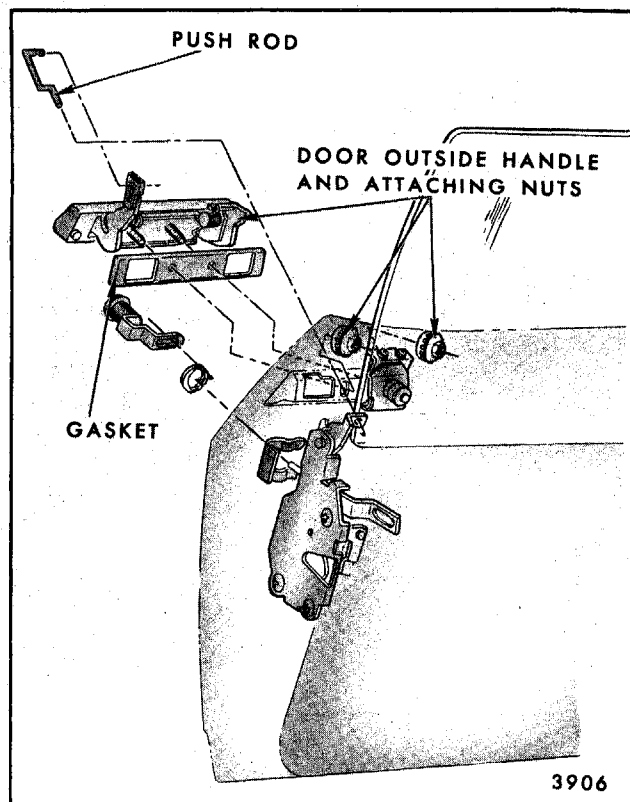

Fig. 5-42-Outside Handle Removal (Lift Bar Type)
- a. On "F" styles, remove rear guide upper bracket to inner panel and guide assembly attaching screws (item 6 and 7, Fig. 5-75) and remove guide bracket from door. Then, working through access hole, disconnect door outside handle to lock push rod at handle assembly (Fig. 5-42).